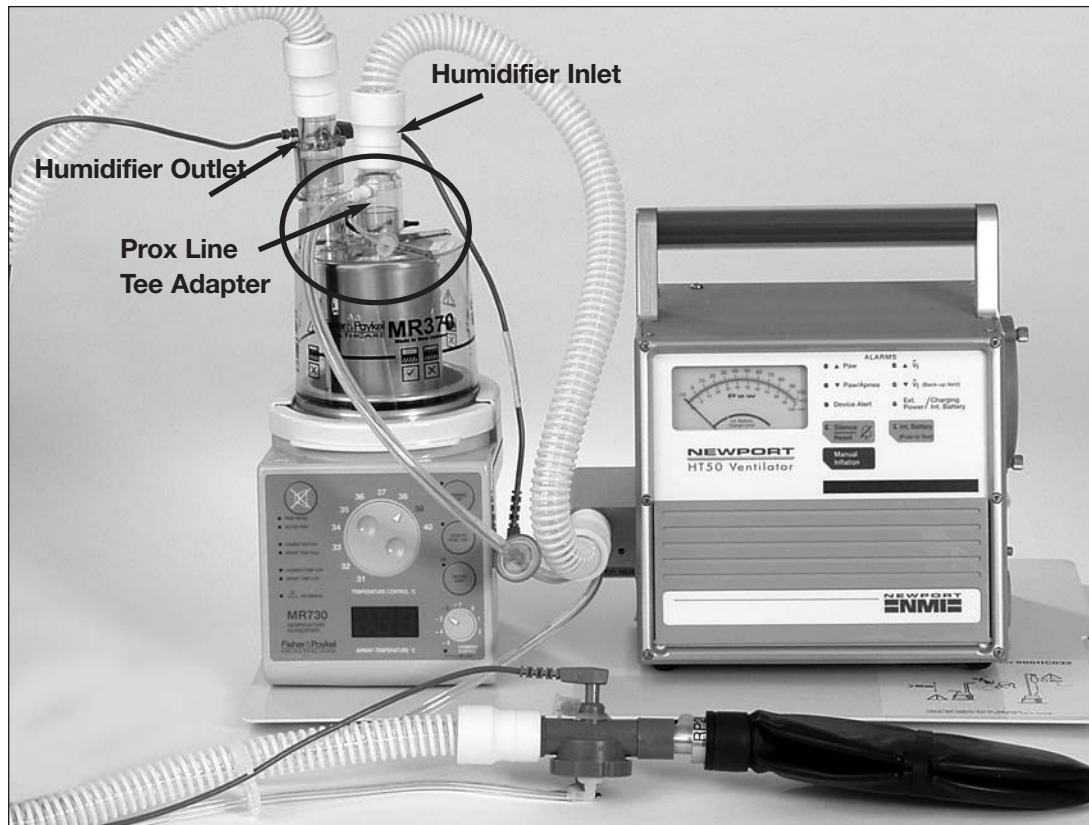

Figure 5-4
- b. When using a humidifier, connect one end of the short humidifier tubing to the Gas Output on the HT50 and the other end to the inlet port of the humidifier. Then attach one end of the 22 mm ID breathing circuit limb to the outlet port of the humidifier. See Figure 5-4.